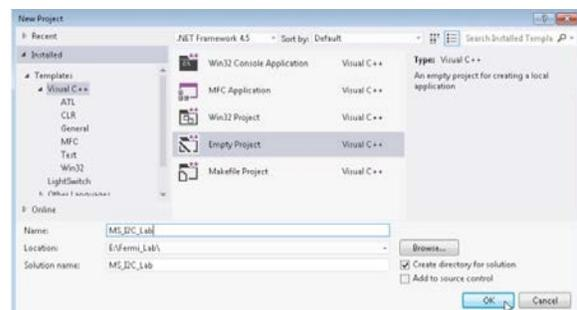

Figure 19. Select Empty Project
2. Select **Empty Project** as shown in Figure 19.